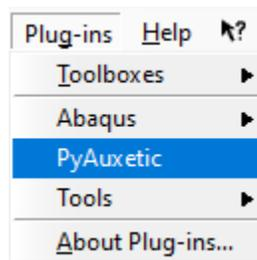

Fig. 1.1: Installed plugin in the plugins menu.
- The plugin can now be seen in the *plugins* menu (Fig. 1.1).